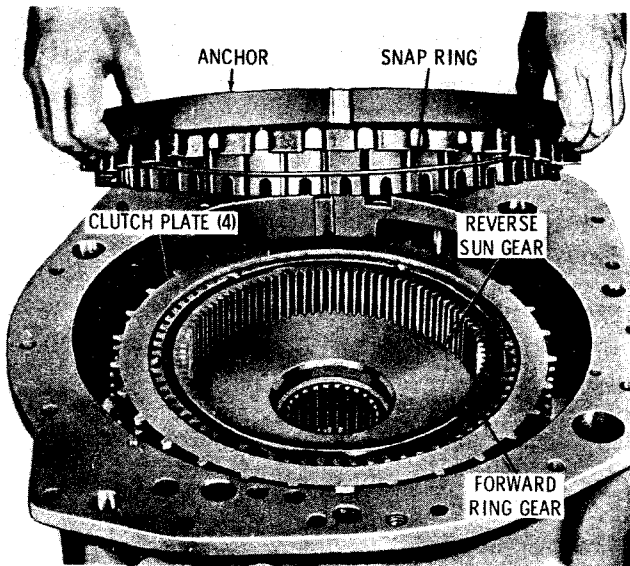

Fig. 5-29. Removing forward clutch anchor (5631 models)
(6) Remove the forward clutch anchor (fig. 5-29). Remove the internal snap ring from the anchor. Remove three of the four remaining clutch plates.
(7) Remove the forward ring gear, and the reverse sun gear (fig. 5-29). Remove the remaining clutch plate.